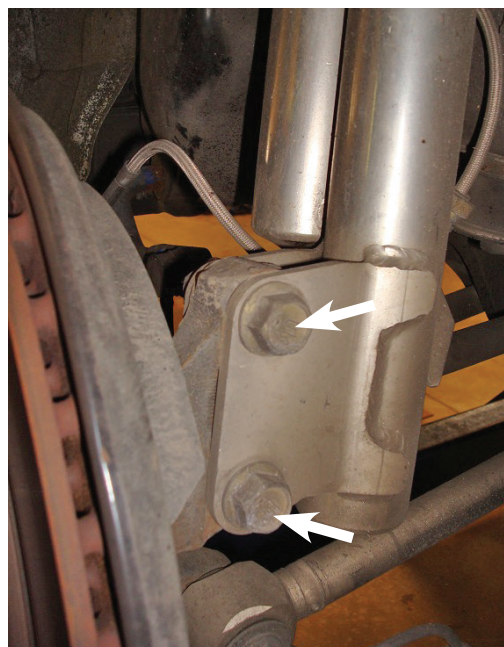

fig. 11
2. Support the hub then unbolt and remove the two lower strut mount bolts (fig. 11).
2. If the custom ride height is lower than stock, we recommend loosening all pivot points (bolts, nuts) on any control arm, strut arm or radius rod that contains bushings (fig. 11). Once they have been loosened, re-torque to stock specifications (Table 1).